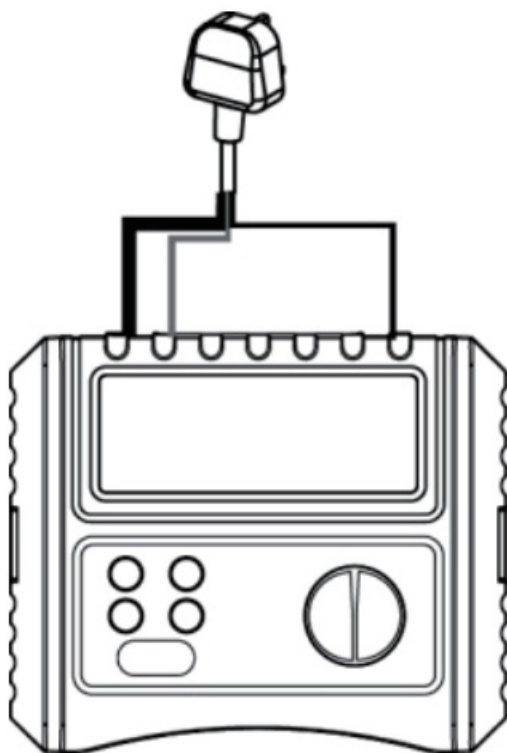

Figure 7
3. Connect red & black alligator clips or probes firmly to tested circuits. The Tester will automatically identify AC/DC voltage and show measured voltage and frequency readings on the LCD. Or connect as shown in Figure 7:
See Figure 7, 8)
(See Figure 7)
2. Insert three connectors of one-plug test leads into three input terminals of the Tester (red to red, green to green, black to black).(Refer to Figure 7)
2. Insert three connectors of one-plug test leads into three input terminals of the Tester (red to red, green to green, black to black). (Refer to Figure 7)